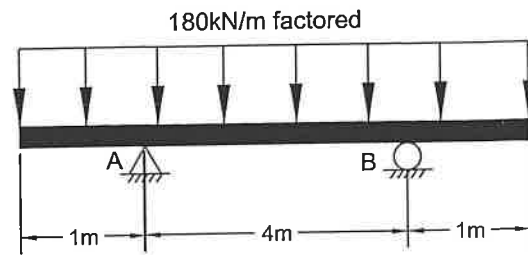

FIGURE B3
- B3. Design the beam shown in Figure B3 to resist the load shown. Assume $f'_c = 35\text{MPa}$. Assume the architect wishes to have a beam that is 900mm deep and 400mm wide.